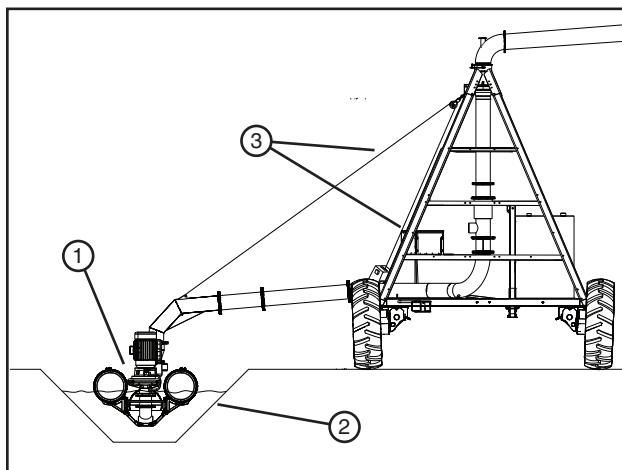

Figure 62-3 1. Suction Inlet 3. Lift Cable
- (a) Lower suction inlet into ditch until the inlet lift cables go slack. See figure 62-3.